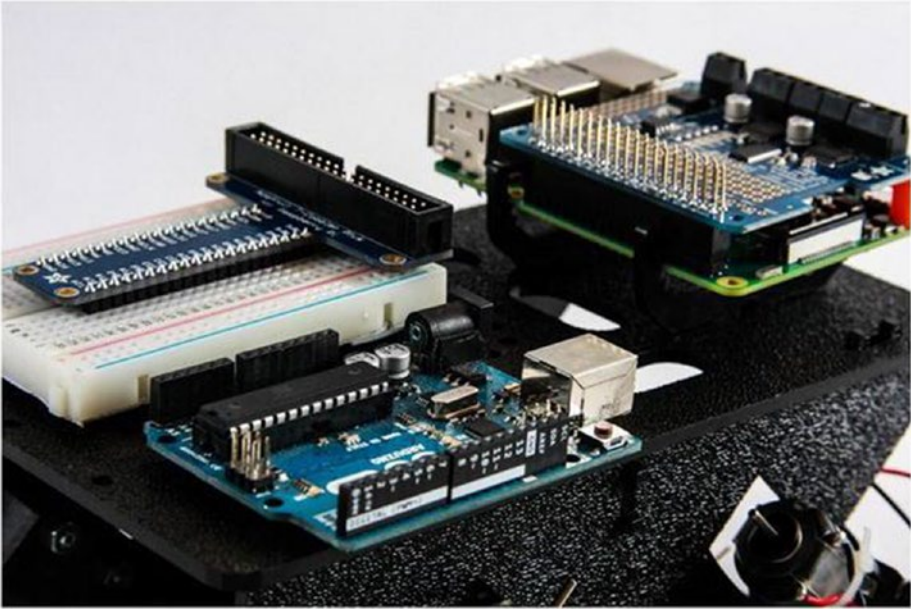

Figure 7-14. *Arduino mounted on a double layer of mounting tape*
4. Repeat the procedure for the Arduino (see Figure 7-14).